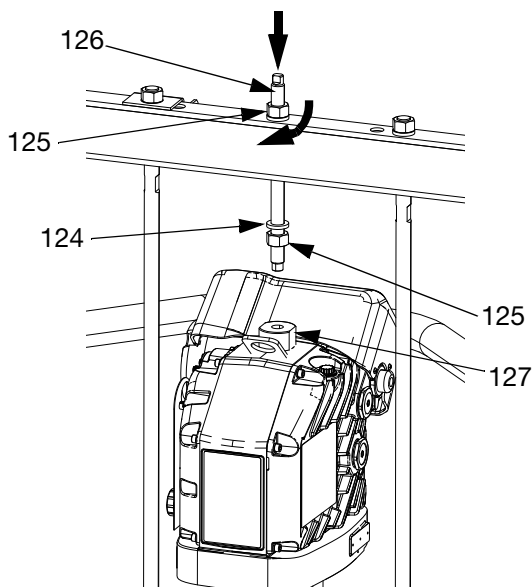

FIG. 52
1. Using a capable hoist, insert tie rods into the Displacement Pump (AC) and secure the Driver (AB) to the Pump (AC).
- b. Install threaded rod (126) through center hole in the crossbar. Install lock washers (124) and nuts (125) onto threaded rod (126), both above and below crossbar. Use wrench to hold lift ring adapter (127) and tighten threaded rod (106) into lift ring adapter (127) using another wrench. See FIG. 52.
- c. Tighten nut (125) below crossbar to 25 ft-lb (34 N•m) maximum.
- d. Tighten nut (125) above crossbar to lock Driver (AB) in place.